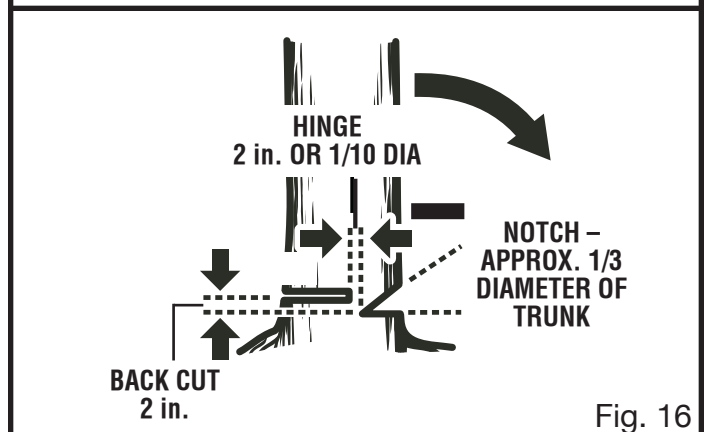

Fig. 16
- **Notched Undercut.** Cut a notch about 1/3 the diameter of the tree, perpendicular to the direction of fall. Make the cuts of the notch so they intersect at a right angle to the line of fall. This notch should be cleaned out to leave a straight line. To keep the weight of the wood off the saw, always make the lower cut of the notch before the upper cut. *See Figure 16.*
- **Felling Backcut.** The backcut is always made level and horizontal, and at a minimum of 2 in. above the horizontal cut of the notch. *See Figures 16 - 17.*
tree). This is called “hinge” or “hingewood.” It controls the fall of the tree and prevents slipping or twisting or shoot-back of the tree off the stump. *See Figures 16 - 17.*